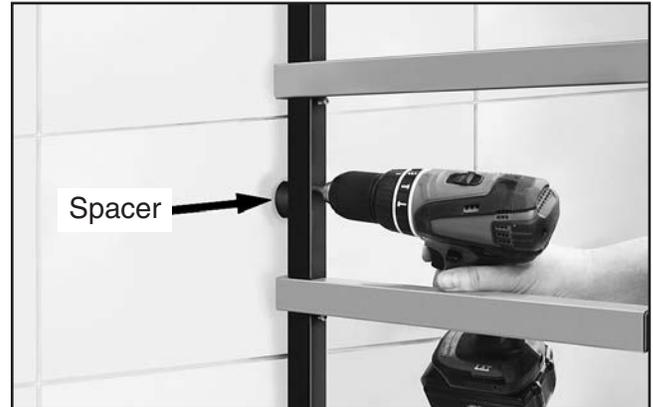

Figure 4. Mounting wood rack to wall.
- Place spacers behind each mounting hole (3 holes per vertical bar, see **Figure 4**), and fasten through wall and into a stud with appropriate mounting fastener (not included).